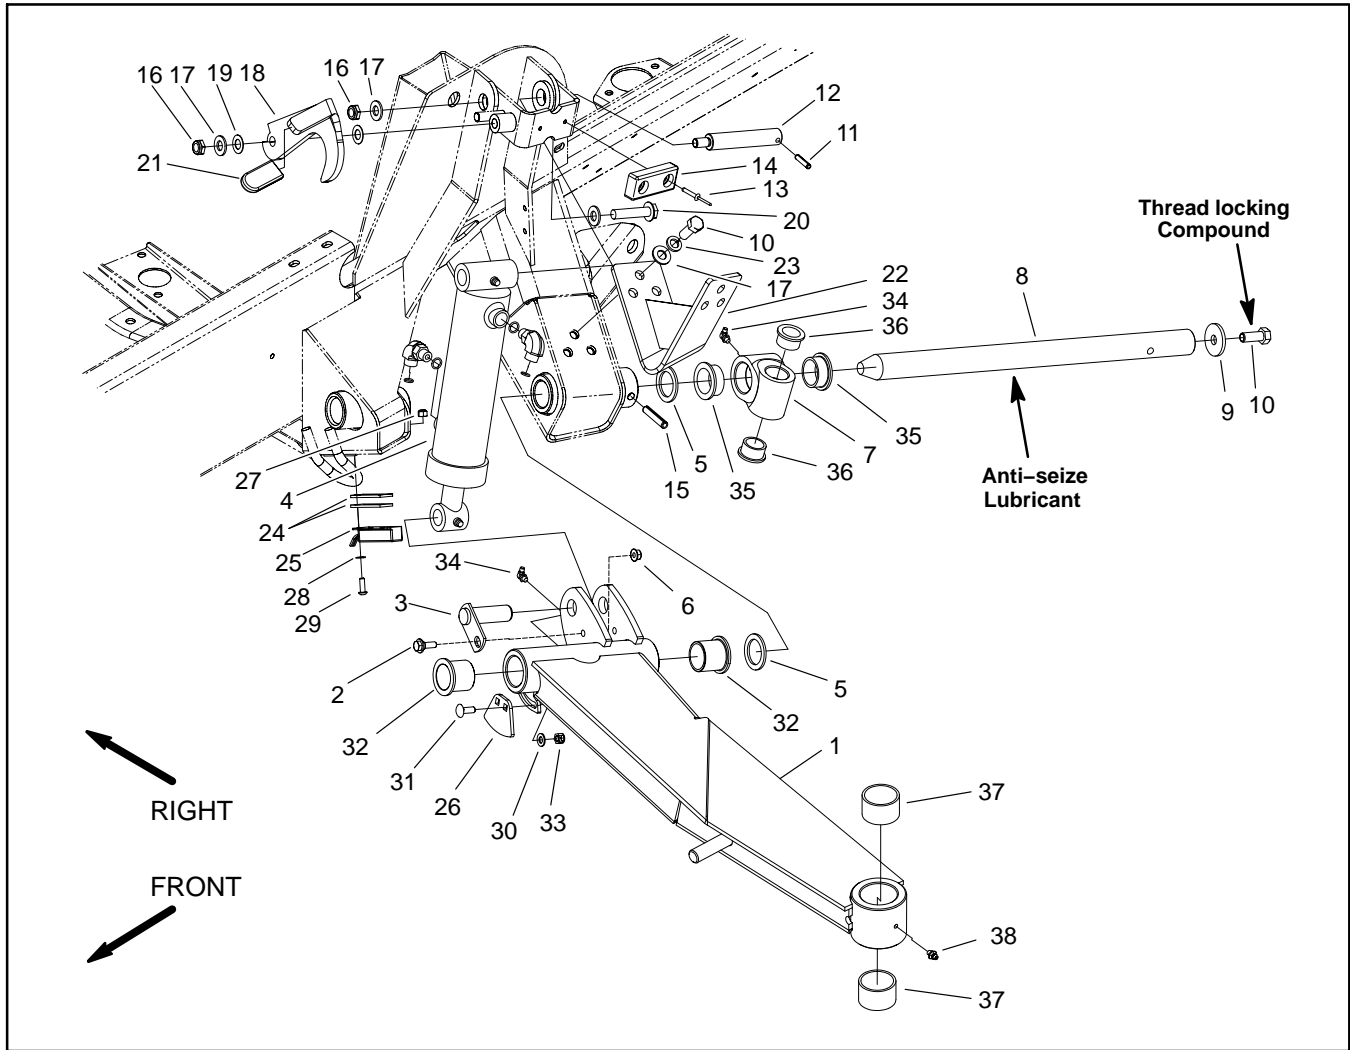

Figure 5
2. Position lift arm to frame with thrust washers properly placed (Fig. 5). Slide pivot shaft into frame and lift arm until roll pin holes align.